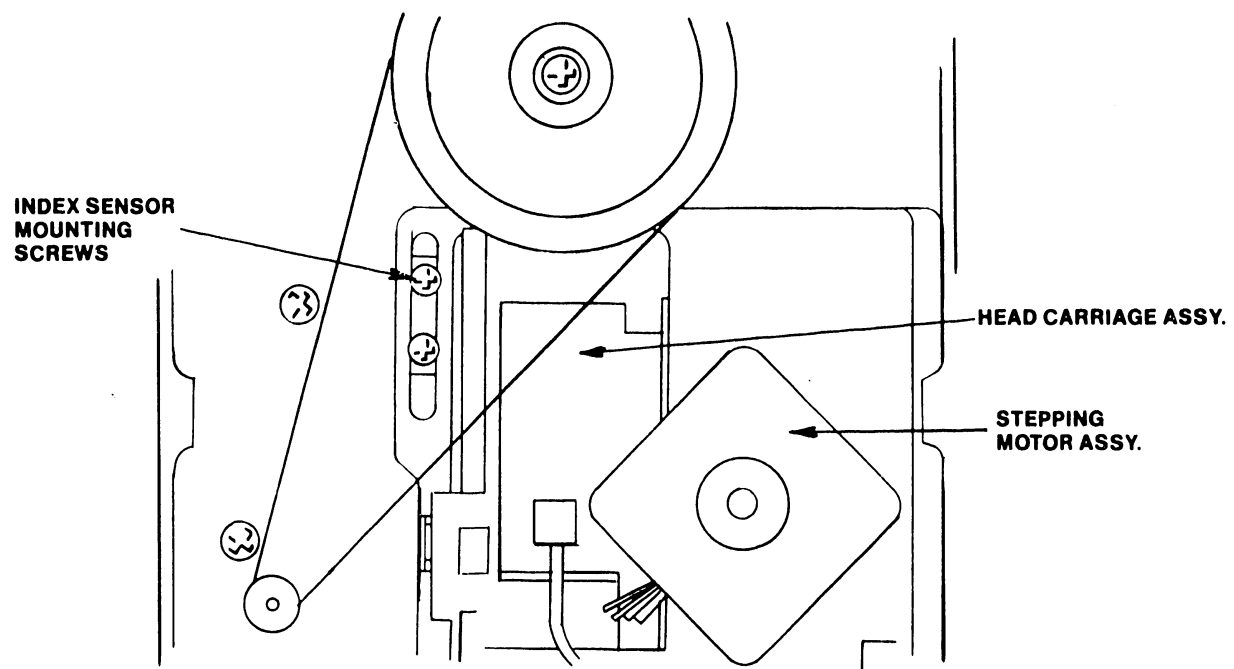

FIGURE 5-31 INDEX SENSOR MOUNTING SCREWS
- MPI: Loosen two index sensor mounting screws in the recessed area at the back of the drive (see Figure 5-31).